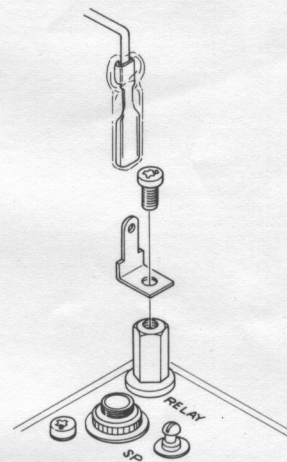

Figure 7.
- (2) Refer to the interconnection diagram (Page 2-5), and hook up the wires as shown. The two heavy red wires (bare ends, with no connector) should be wired in parallel with the main steering wheel horn switch of the car. The three leads from the molded connector are connected as follows: the white lead goes to the FTC-1525A/1540A HORN RELAY terminal (Figure 7); the red lead goes to an auxiliary post on the fuse block, if one is available (10 amp fuse is OK); the black lead goes to ground.